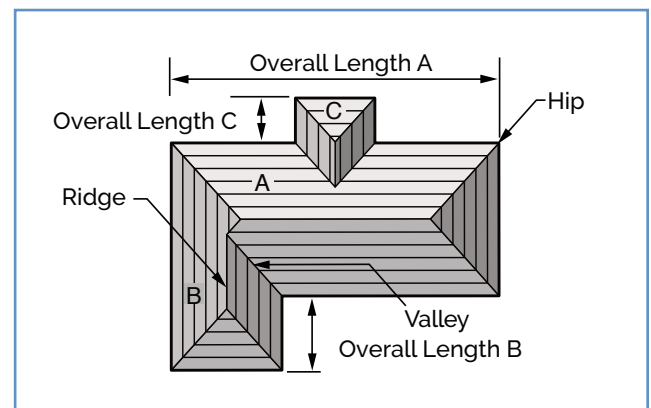

Figure 2.2.4
II. Hip and valley roofs: (Figure 2.2.4).
First take the section with longest rafters (Section (A) Figure 2.2.4). Treat this section of the roof initially as a straight gable. Calculate the number of tiles required for coverage using formula 1 and formula 2 (or use Table 2.2.1 to calculate the number of tiles.)
Repeat the calculations for each section of the roof (Section (B)(C) Figure 2.2.4).